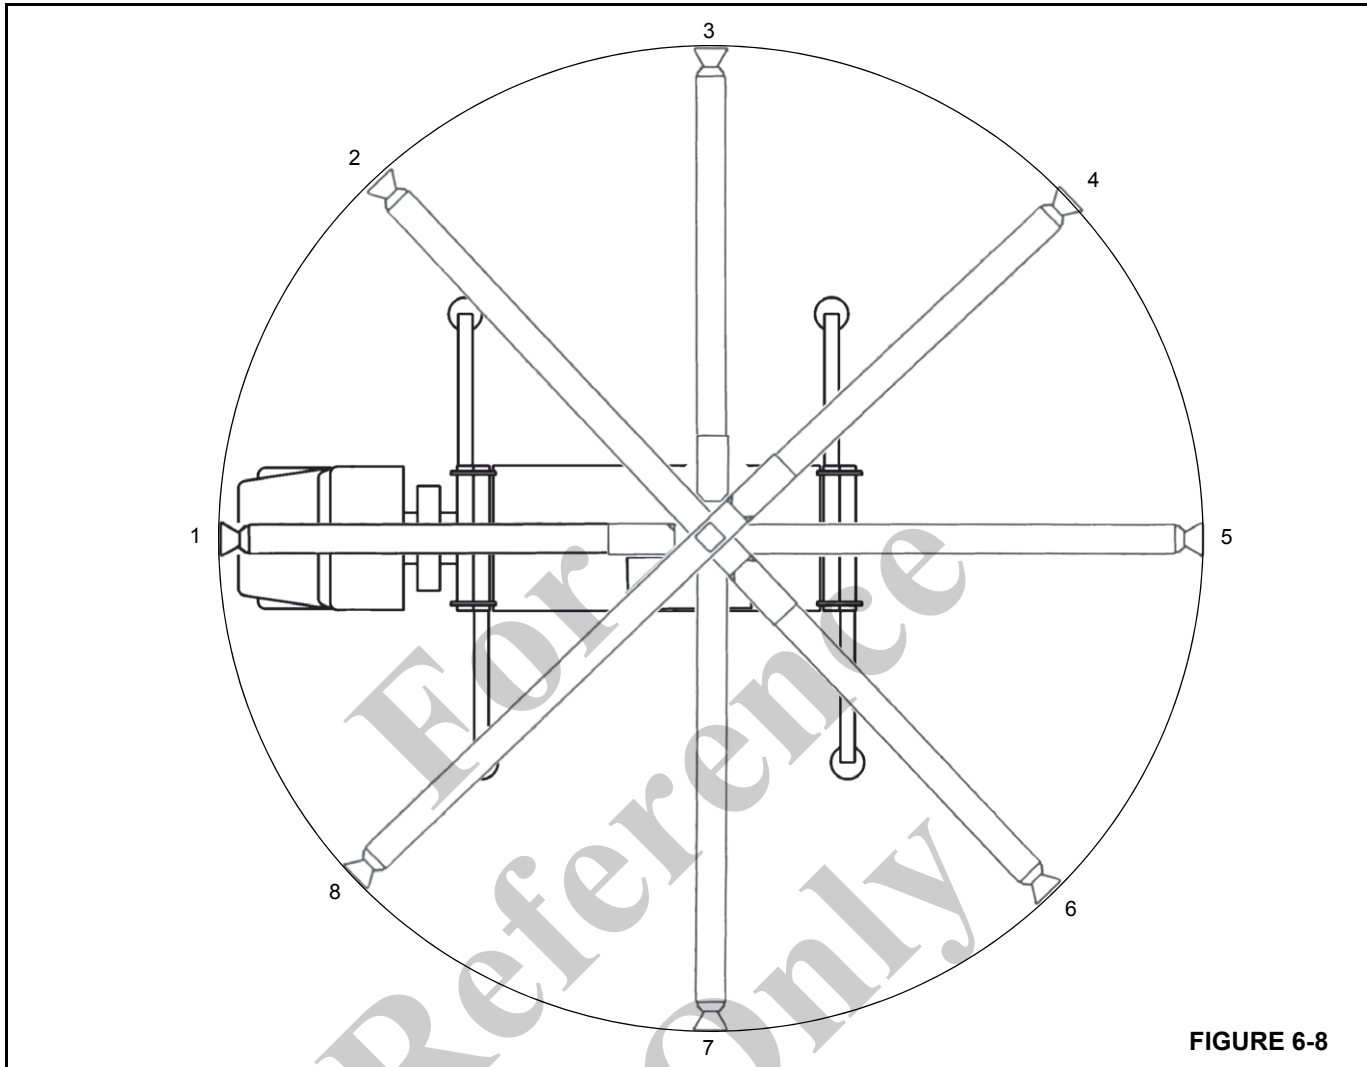

FIGURE 6-8
10. If the average is less than 2 mm (0.090 in), repeat the measurement at every 45° around the total working area of the crane (Figure 6-8).